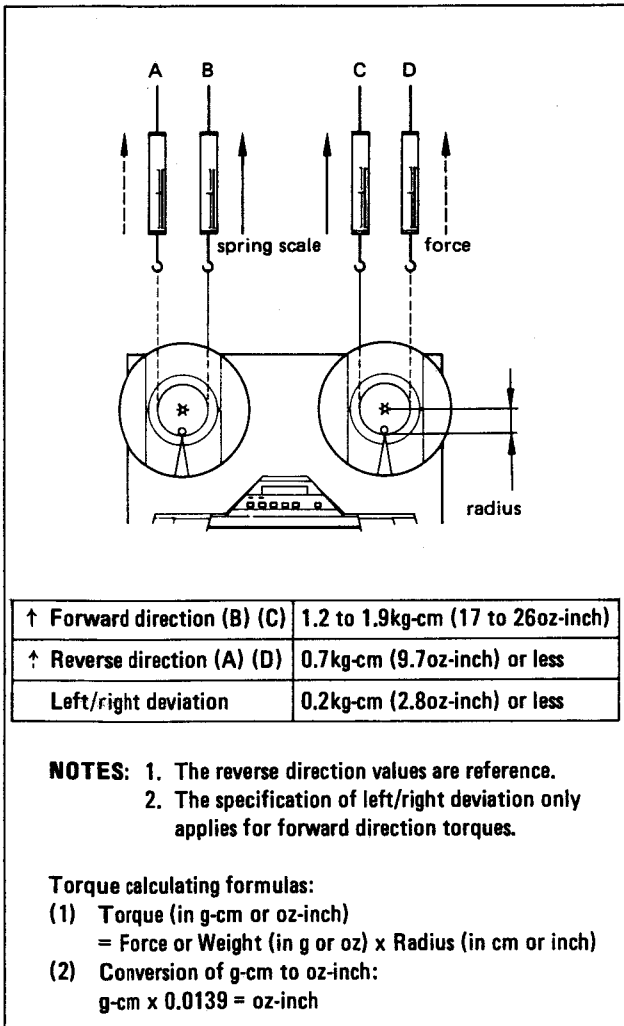

Fig. 2-3
3. Do steps 1 and 2 for each measuring condition, (A) through (D) in Fig. 2-3.
4. The values are as chart in Fig. 2-3.